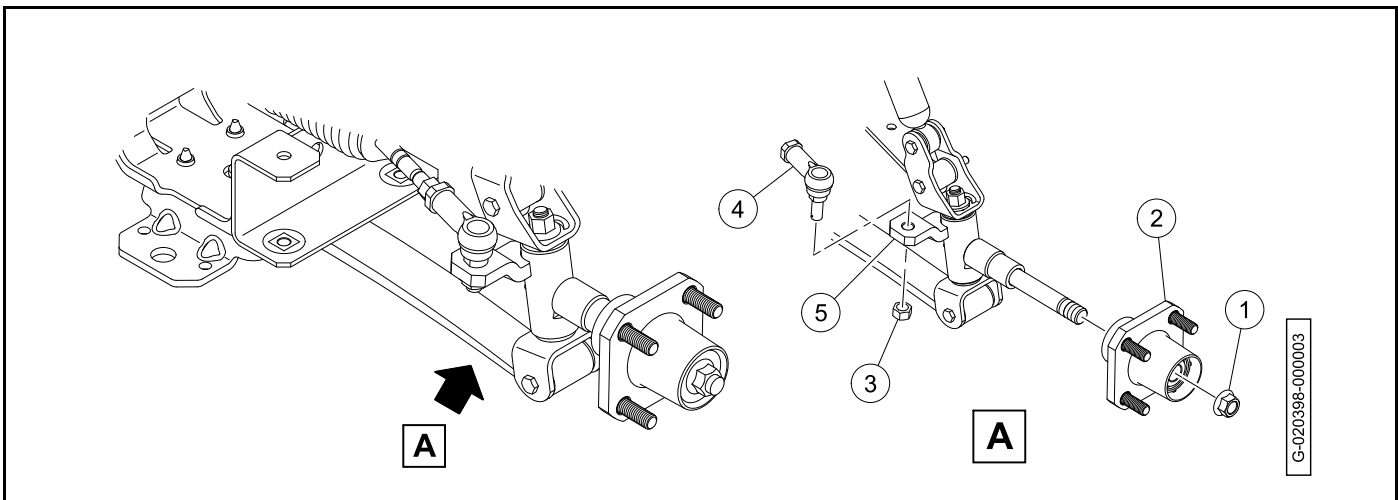

Figure 7-26
4. Remove and discard the lock nut (1) (Figure 7-26).